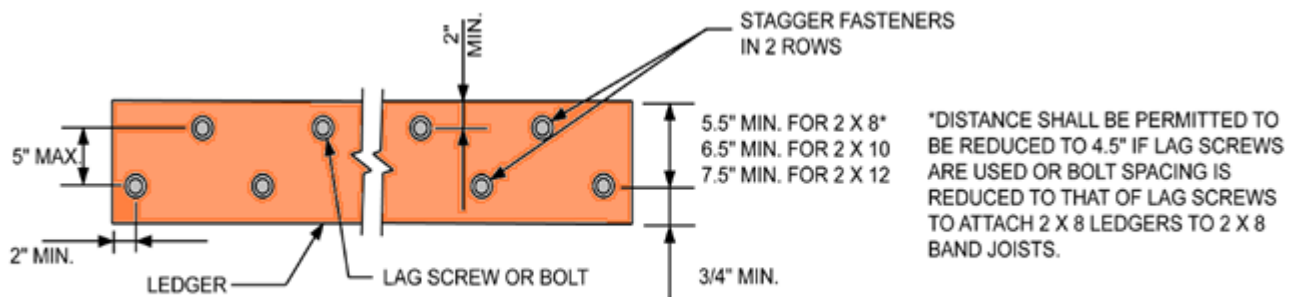

FIGURE R507.2.1(1)
a. Lag screws or bolts shall be staggered from the top to the bottom along the horizontal run of the deck ledger in accordance with Figure R507.2.1(1).
d. The minimum distance from bottom row of lag screws or bolts to the top edge of the ledger shall be in accordance with Figure R507.2.1(1).